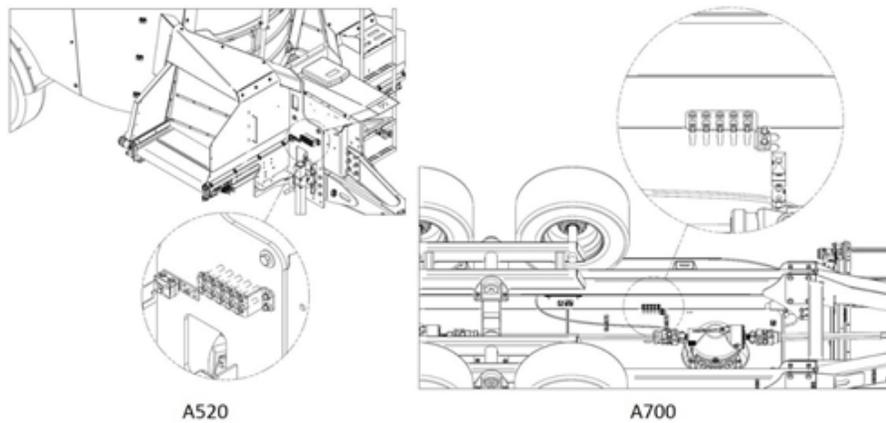

Figure 38 — Location of the Shear Bolts on the A520 and A700 SMARTMIX
3. Insert a new bolt (available on the spare bolt support) (Figure 38)(see Table 17 — Power Take-Off (PTO) Shear Bolts in "Appendix A — SMARTMIX maintenance summary tables" on page 132 for the type of shear bolt to use for your mixer model).
3. Insert a new bolt (available on the spare bolt support) (Figure 38) (see Table 17 — Power Take-Off (PTO) Shear Bolts in "Appendix A — SMARTMIX maintenance summary tables" on page 132 for the type of shear bolt to use for your mixer model).